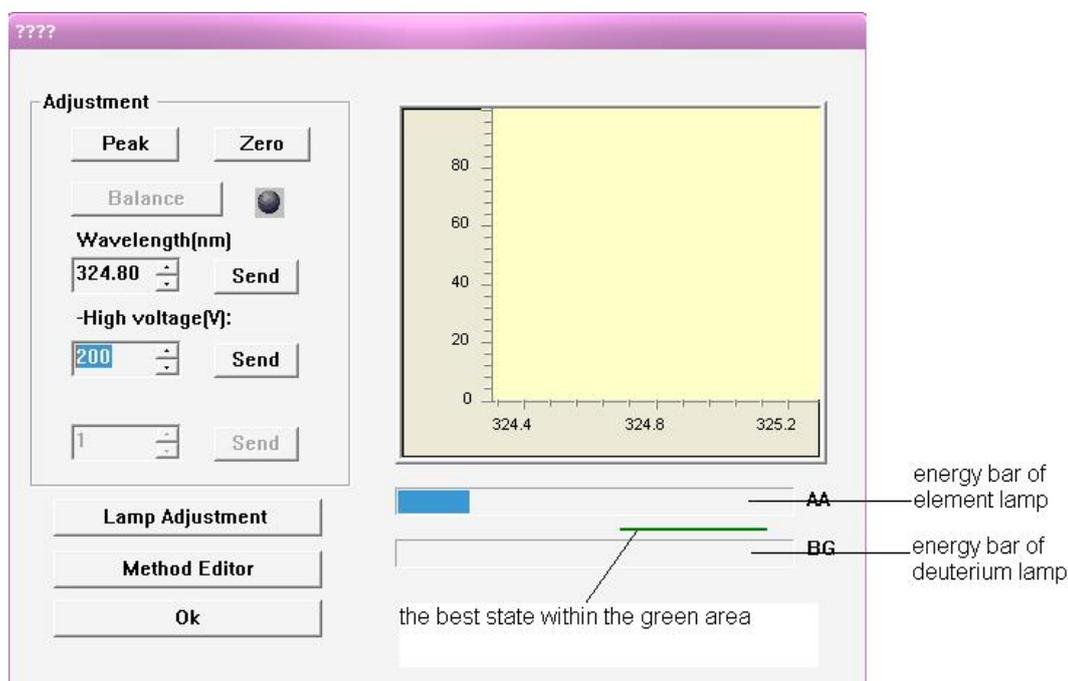

Figure 4-44
c. Press **ok** shows Figure 4-44, press "Peak" button, it will automatically find the center opposition of wavelength